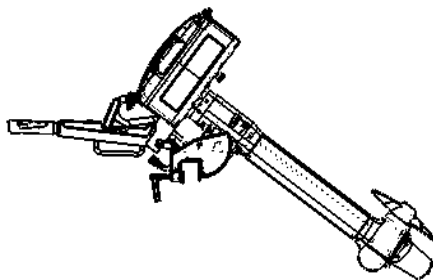

Figure 3-15
4. Lower the outboard motor to complete the pitch angle adjustment, as shown in Figure 3-15.